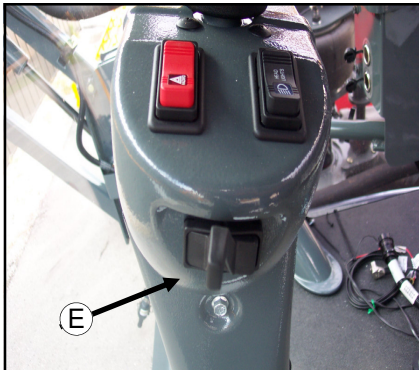

FIG. 21-2
**TURN SIGNALS**– To activate the front turn signals (fig. 22-3) and the rear turn signals (fig. 22-4 and 5), move the turn signal lever (fig. 21-2, item E) forward, away from the operator, to signal a right turn and back, toward the operator, to signal a left turn. Steering column– mounted turn signal indicators will correspondingly flash when either turn signal is activated. The turn signal switch is not a self– centering switch; you must return it to the “OFF” position by